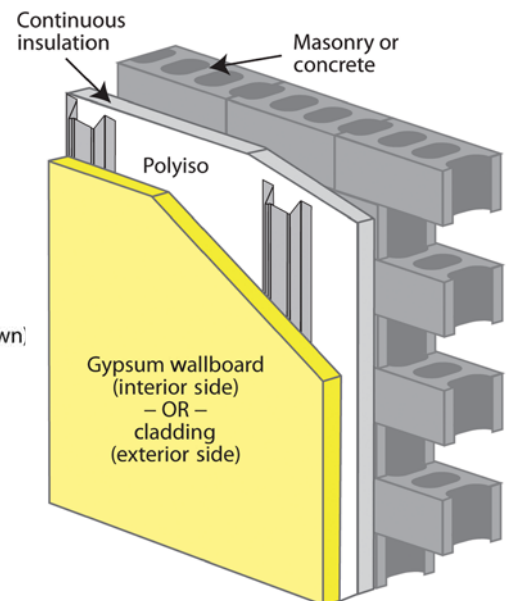
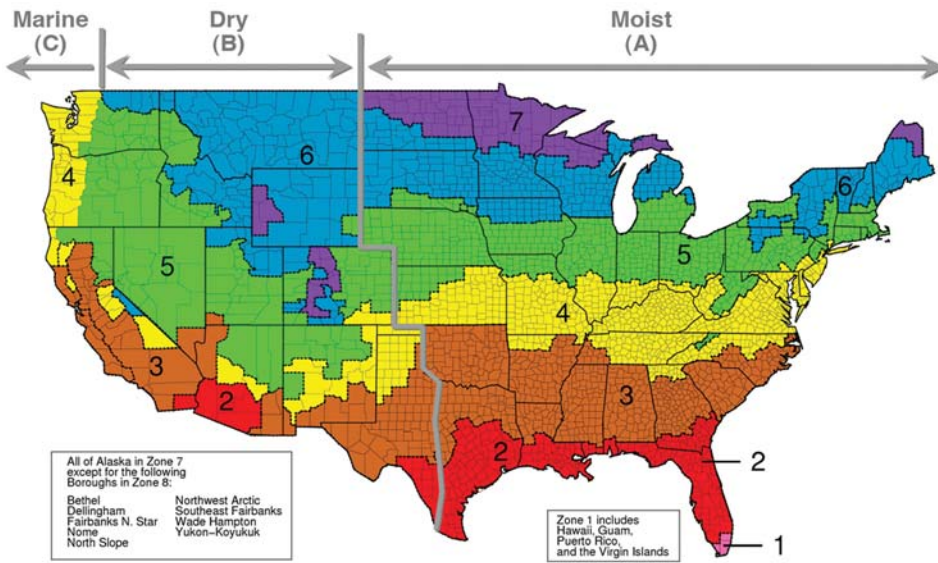

Figure 2A – Cavity insulation only.
Figure 4 – U.S. Climate Zone Map. Source: 2006 International Energy Conservation Code (IECC).
There are at least two good reasons to include CI in exterior wall assemblies: code compliance and high performance. CI provides one of the most thermally efficient ways of complying with modern energy codes. It practically eliminates avoidable heat loss due to thermal bridging in walls that are not continuously insulated (see *Figures 2A–2C*). Modern energy code requirements for walls including CI are shown in *Figure 3*, together with a color-coordinated U.S. climate zone map (*Figure 4*). Clearly, CI plays a significant role in advancing energy codes and best practices for a more energy-efficient future.
4. Refer to climate zone map (Figure 4) for geographic extent of climate zones listed in Figure 3.